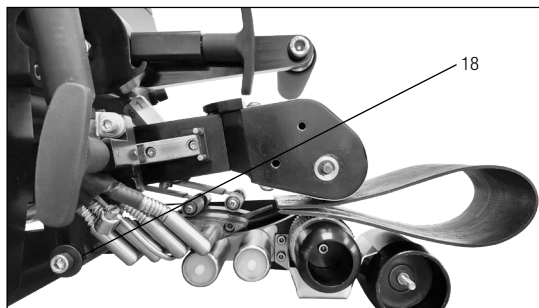

Figure 5
Adjustment procedures for lock mount assemblies (Figure 5):
- With the material set-up piece in place and with the nip lever and wedge engaged as shown on Figure 5, use a 5mm Allen wrench to loosen the wedge mount bolt that connects the wedge hex mount to the wedge slide lock mount (#18, Figure 5).